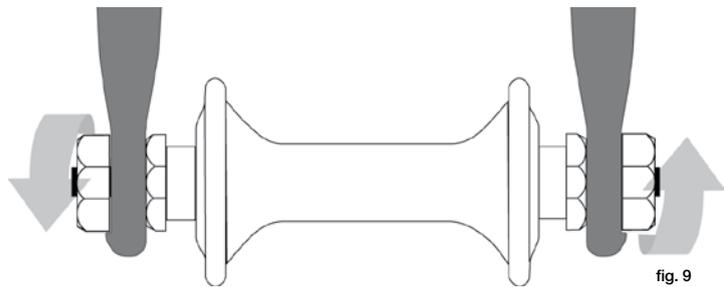

fig. 9
3. **Other Track models** utilize Hex nuts or hex key bolts which are threaded on to or into the hub axle (bolt-on wheel, fig. 9)